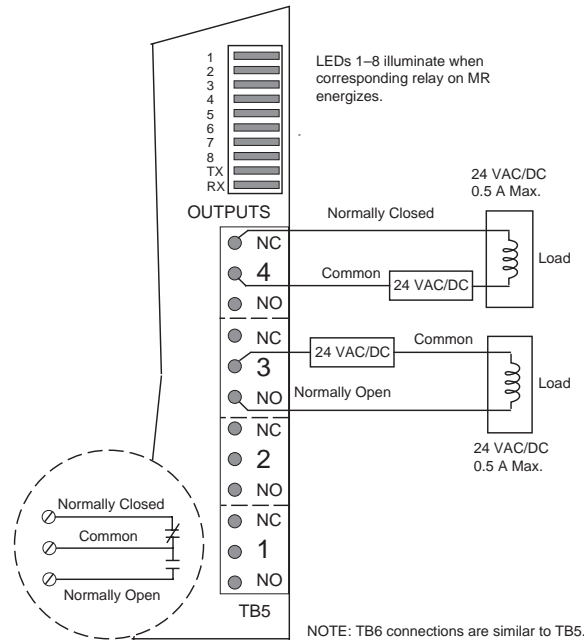

Figure 14. MR88R Relay Output Connections
2. Connect the common lead to the corresponding terminal number (see Figure 14).